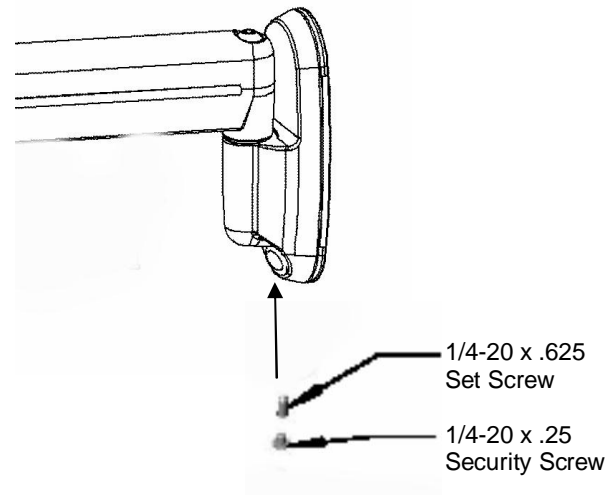

Figure 6. Install Security Set Screws (Option I)
3. Install a 1/4-20 x 5/8" security set screw (40) and a 1/4-20 x 1/4" security screw (30) into the wall plate in the order shown in Figure 6.